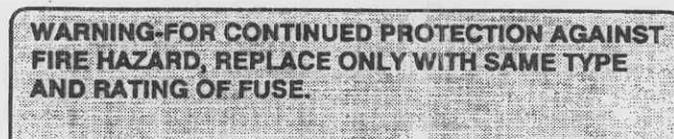

Figure 1-6. Instruction label.
(4) A label providing instructions to protect the warming cabinet, located on the inside of the control module door, is depicted in figure 1-6.
(5) A model number decal is located on the upper edge of the cabinet control chassis.